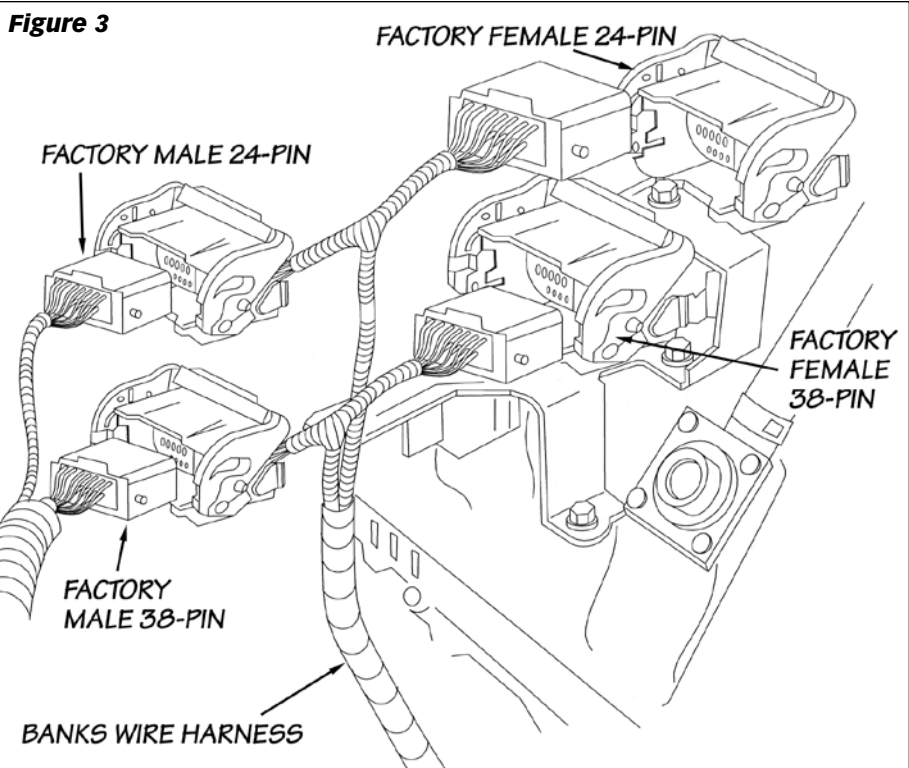

Figure 4 Six-Gun module mounted on fusebox
6. The Six-Gun is to be installed under the hood on the outside of the fuse box, with the wire harness facing towards the rear of the vehicle (see **Figure 4**). Make sure the outside of the fuse box is free of oil, grease and dirt.